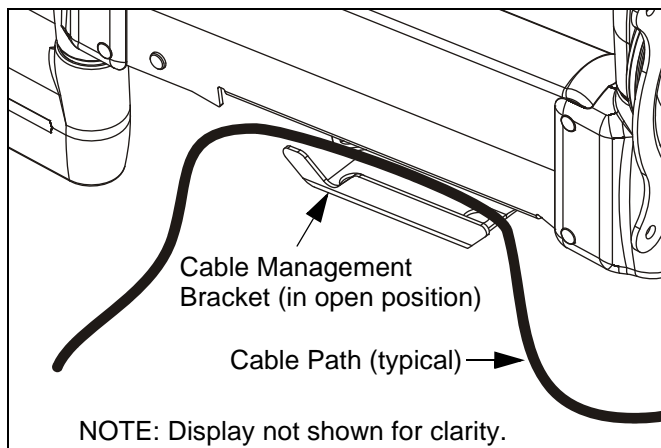

Figure 21: Height Adjustable Arm - Cable Path
3. Carefully insert cables into bracket (See Figure 21).